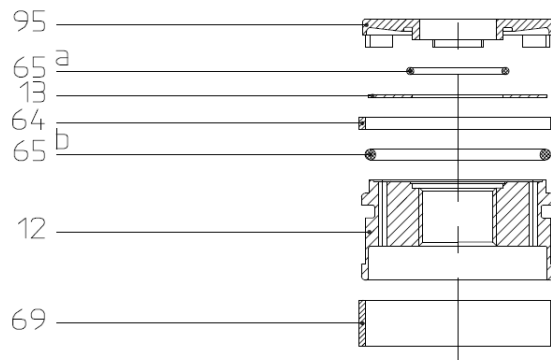

Figure 6-12; Low Noise piston
In case of a low-noise version (Figure 6-12), the piston is fitted with a deviating non-return valve construction. In this case the non-return valve (13) also functions as spring.